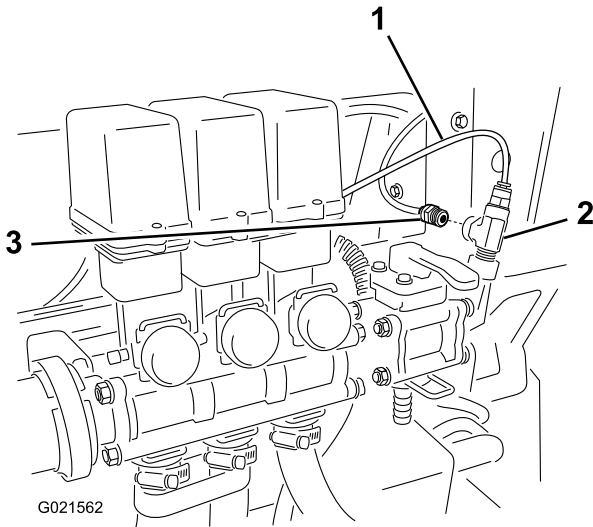

Figure 9
3. Locate the red (pressure gauge) tube coming from the back of the control box and install it to the opening in the tee fitting (Figure 9).